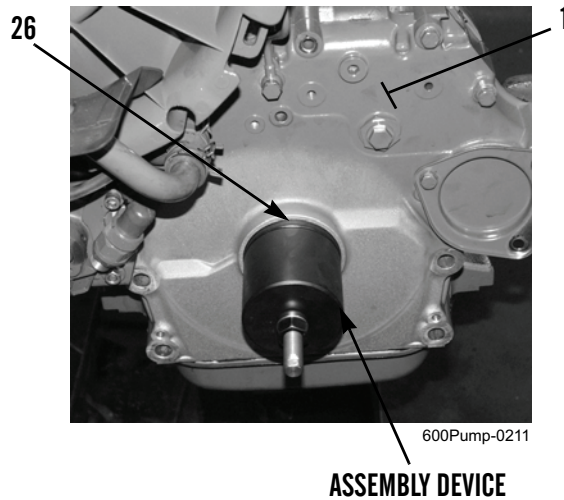

Figure 7. Installing Front Main Seal.
- b. From outside front cover (Figure 7, Item 1), use assembly device to install new front main seal (Figure 7, Item 26).